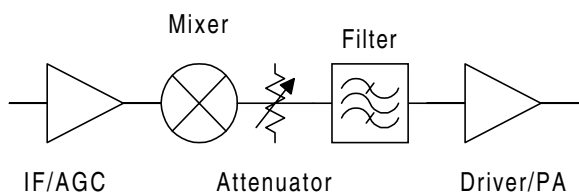

Figure 4. CDMA Handset Transmit Application
Typical uses for this type of part include local oscillator, IF and RF level control throughout communications, measurement, and control circuits. Due to its flat, wide-band response, it has little effect on phase and group delay and thus introduces minimal distortion. One radio designer required a way to reduce the output of the receive mixer in a CDMA base station prior to the IF amplifier. He found the RF2421 to be an ideal solution. Also, to provide one step of transmit level control with little degradation of the noise figure (NF), it could be used in a CDMA handset transmit chain between the upconverter and the bandpass filter (Fig. 4). Since the device is purely passive, it produces no additive noise and the NF is, essentially, the insertion loss.